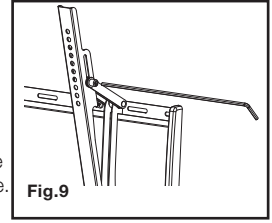

Fig.9
1. To change the tilt angle of your display, hold the display firmly in place and loosen the tilt mechanisms using the long Allen key (L) from the hardware kit (see Fig. 9). Move your display to the desired position, and then re-tighten the tilt mechanisms. If your display is in the non-tilt position, you will need to push up gently on the display before you can move it. **Do not release the display until both tilt mechanisms are firmly tightened.**